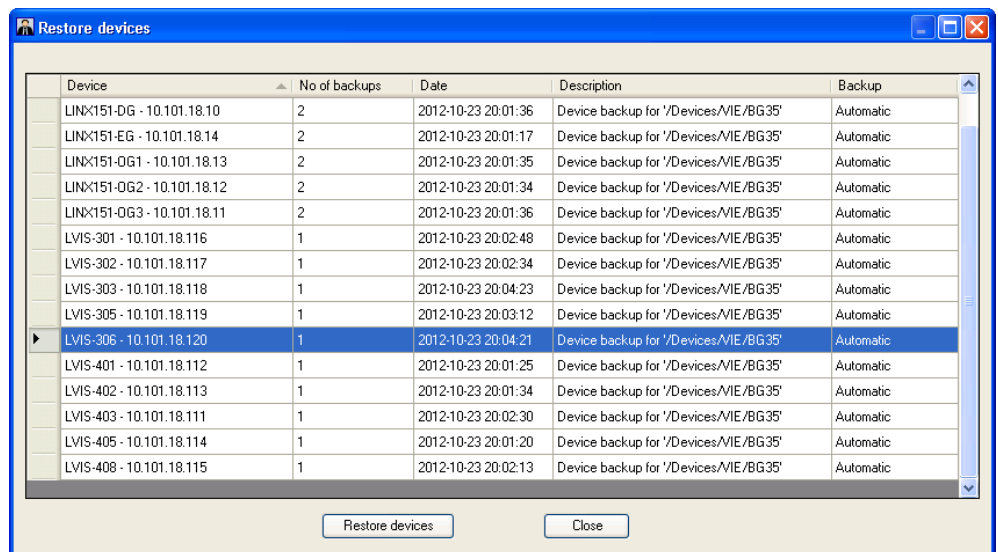

Figure 220: Restore Devices Dialog
3. The **Restore devices** dialog (see Figure 220 and Table 52) allows selecting the backups which will be restored. Per default the latest backup is selected for each device. You can select a different backup using one of the following methods: